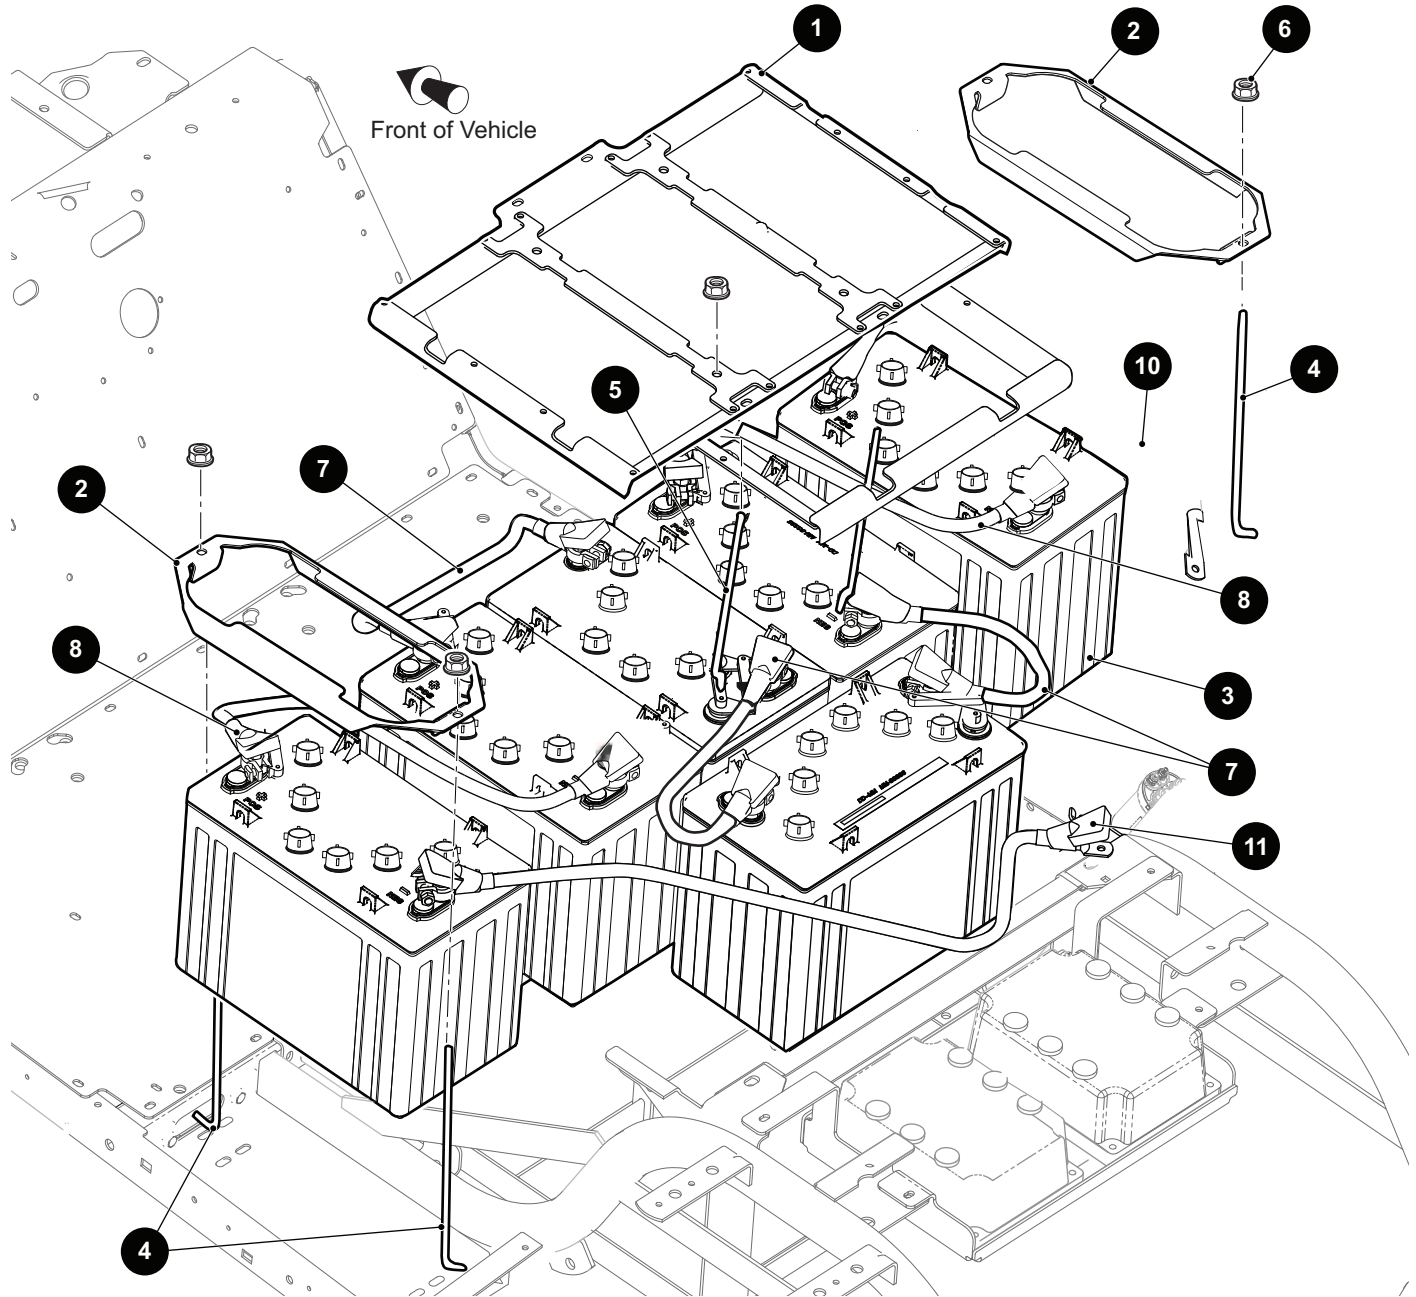

Fig. 1 Battery System
3. Remove the nuts (6) and hold down bolts (4) from the battery hold downs (2) and battery bracket (1).
4. Remove the batteries (3) using a battery carrier (Ref. Fig. 1).